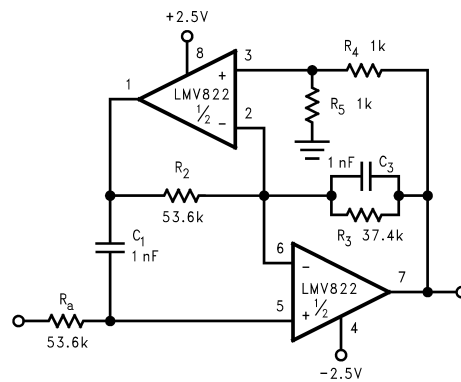
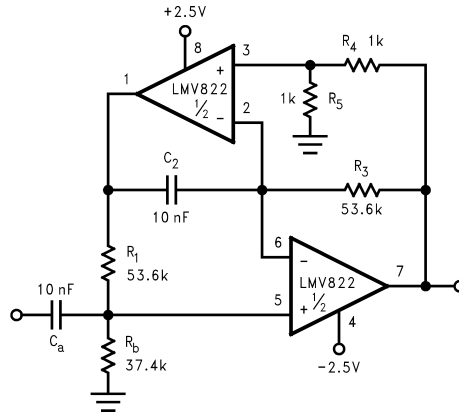
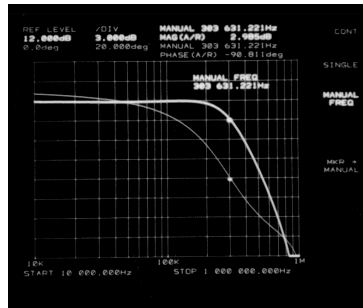

Figure 10. Dual Amplifier, 3 kHz Low-Pass Active Filter with a Butterworth Response and a Pass Band Gain of Times Two
Figure 11. Dual Amplifier, 300 Hz High-Pass Active Filter with a Butterworth Response and a Pass Band Gain of Times Two
Figure 12. 300 kHz, Low-Pass Filter, Butterworth Response as Measured by the HP3577A Network Analyzer
The LMV822/24 bring economy and performance to DAAFs. The low-pass and the high-pass filters of Figure 10 and Figure 11 (respectively), offer one key feature: excellent sensitivity performance. Good sensitivity is when deviations in component values cause relatively small deviations in a filter's parameter such as cutoff frequency (Fc). Single amplifier active filters like the Sallen-Key provide relatively poor sensitivity performance that sometimes cause problems for high production runs; their parameters are much more likely to deviate out of specification than a DAAF would. The DAAFs of Figure 10 and Figure 11 are well suited for high volume production.
Single Amplifier versions require a large open-loop to closed-loop gain ratio - approximately 50 to 1, at the Fc of the filter response. Figure 12 shows an impressive photograph of a network analyzer measurement (hp3577A). The measurement was taken from a 300 kHz version of Figure 10. At 300 kHz, the open-loop to closed-loop gain ratio @ Fc is about 5 to 1. This is 10 times lower than the 50 to 1 "rule of thumb" for Single Amplifier Active Filters.
In addition to performance, DAAFs are relatively easy to design and implement. The design equations for the low-pass and high-pass DAAFs are shown below. The first two equations calculate the F_c and the circuit Quality Factor (Q) for the LPF (Figure 10). The second two equations calculate the F_c and Q for the HPF (Figure 11).
To simplify the design process, certain components are set equal to each other. Refer to Figure 10 and Figure 11. These equal component values help to simplify the design equations as follows:
To illustrate the design process/implementation, a 3 kHz, Butterworth response, low-pass filter DAAF (Figure 10) is designed as follows: